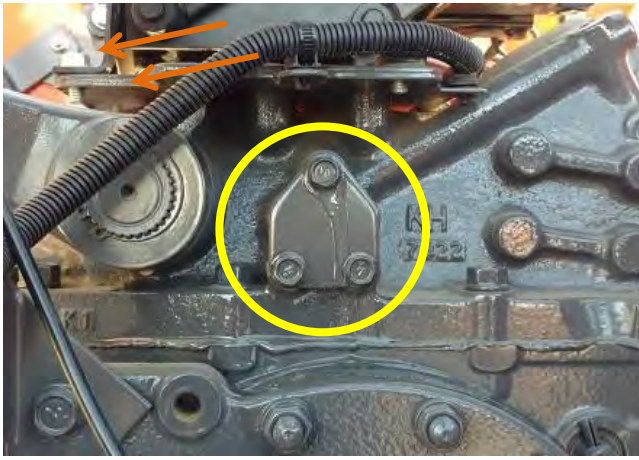

Figure 4: Return port cover
5. Remove return port cover to expose manifold block mating surface. (Fig. 4)